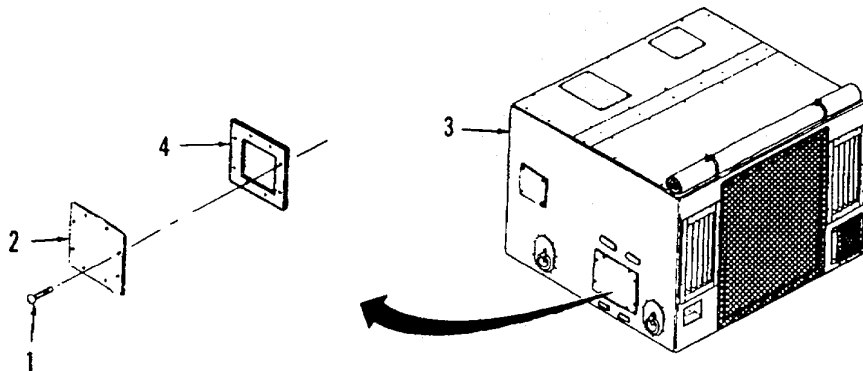

Figure 3-7. Access Panel.
**a. Removal.** (Refer to Figure 3-7).
- (1) Remove eight screws (1) and access panel (2) from air conditioner (3).
- (2) If gasket material is being replaced, remove gasket (4) from access panel (2).